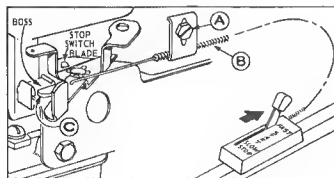

FIG. 3
2. Assemble the control wire and casing to the engine with the casing clamp and screw "A" as shown in Figure 3. Leave screw "A" loose.
3. Place remote control lever in FAST position. Slide control casing "B" in clamp until lever "C" is just touching the boss on the carburetor as shown in Figure 3. Tighten screw "A".